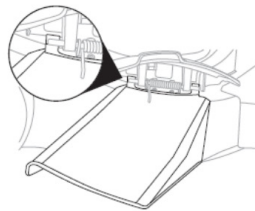

Fig.9B
4. Mount the side discharge channel for side discharge on the support pin of the side flap. (Fig.9B)